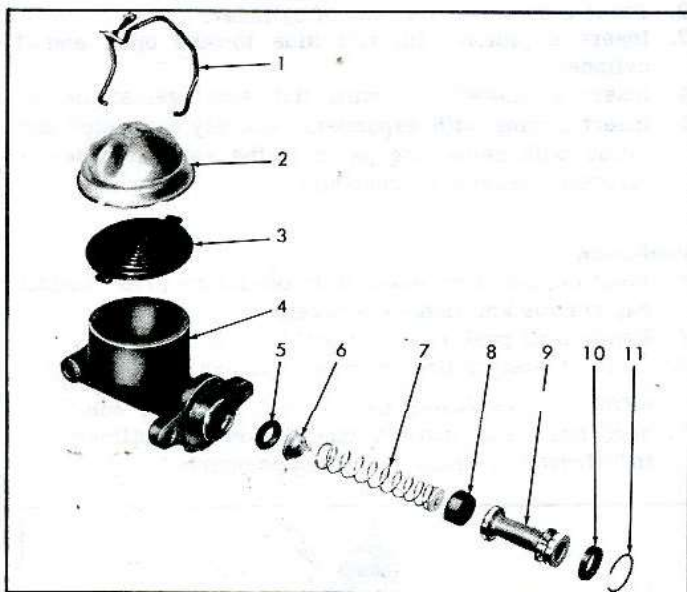

Fig. 22—Brake Main Cylinder
2. Place main cylinder in a vise so that the lock ring (fig. 22) can be removed from the small groove in the I.D. of bore.